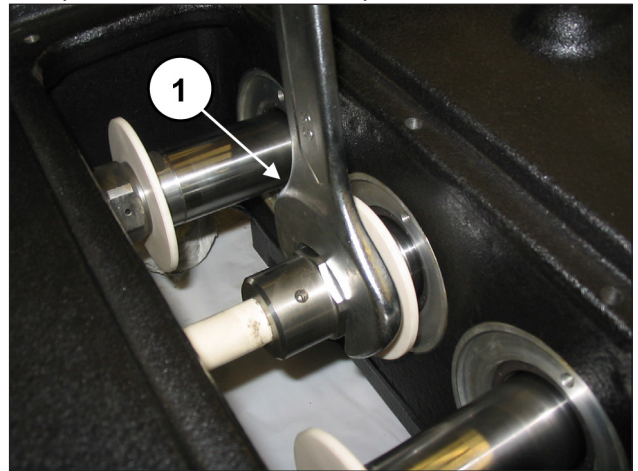

Fig. 101
Screw in the three pistons (pos. ①, Fig. 101) and calibrate with a torque wrench as indicated in chapter 3.